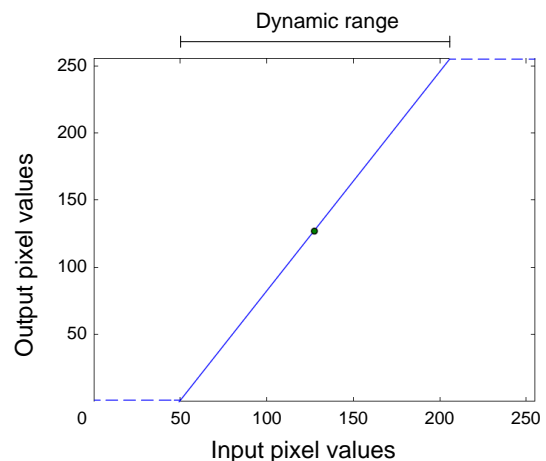

Fig. 19: Contrast = 0.3, Brightness = 0, Linear Contrast Mode
The higher the slope of the linear function, the more output pixel values will be set to completely black (0) or completely white (maximum pixel value). In the example shown in Figure 19, input values from 0 to approximately 50 are set to completely black, and input values from approximately 205 to 255 are set to completely white.